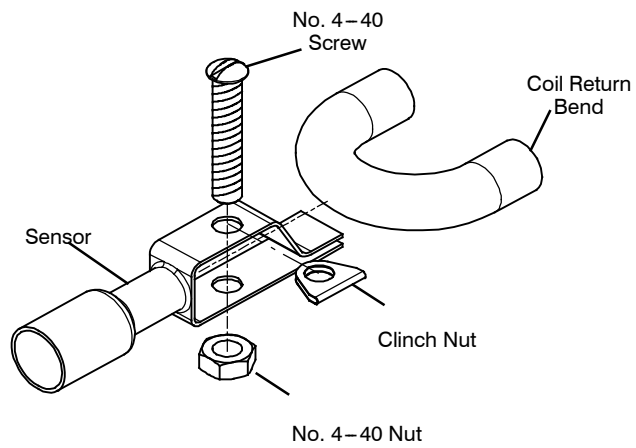

Fig. 3- MotorMaster® Sensor
5. Secure sensor on coil return bend with the No. 4-40 screw and nut supplied with kit as shown in Fig. 3.